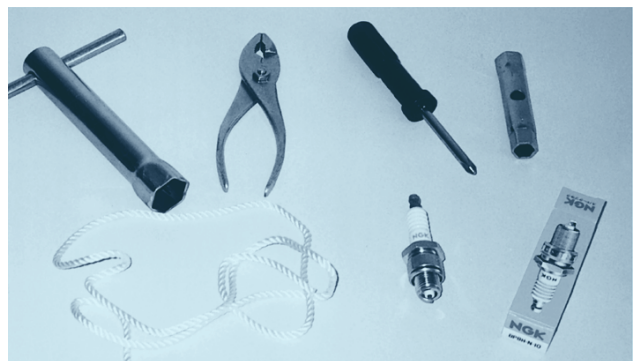

Figure 35.1 Small tool kit commonly supplied with outboard motors (Equipment supplied courtesy Mariner Outboards).
1. Obtain a small tool kit like the one shown in Figure 35.1.